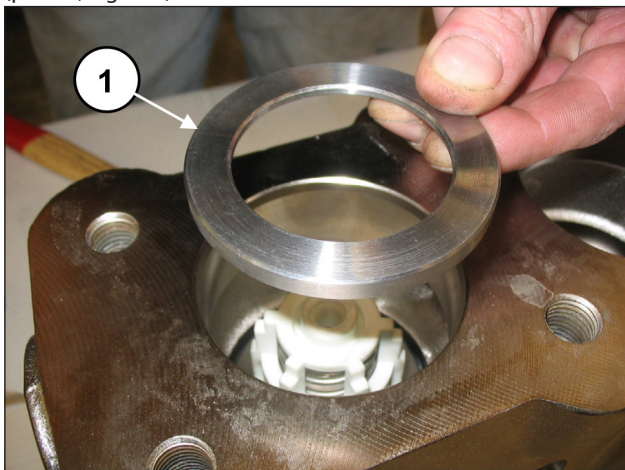
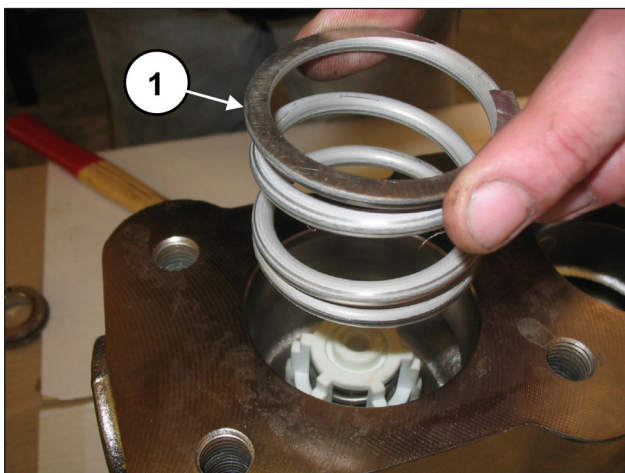

Fig. 123
Fig. 124
Insert the valve housing ring (pos. ①, Fig. 123) and the spring (pos. ①, Fig. 124).